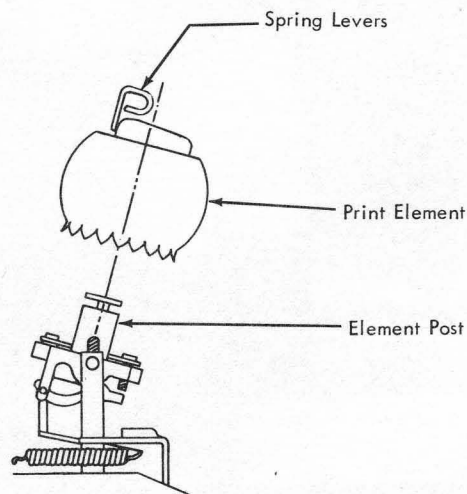

Figure 13. Position of Print Element while Removing and Replacing
3. Press the spring levers together and lift up to release the element from the notch on the element post (Figure 13).
2. Grasp the spring lever and place the element on the element post. The arrow on top of the cap should be facing the platen (Figure 13).